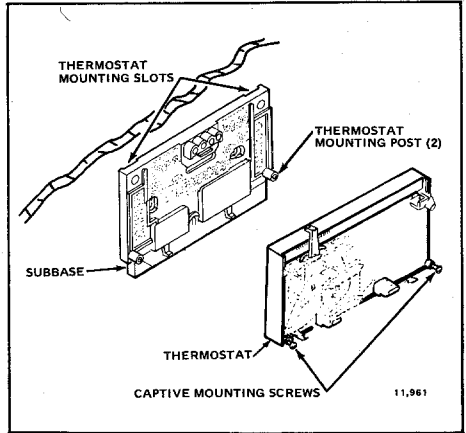

Fig. 7—Mounting thermostat on subbase (T874R shown).
5. Align the two captive mounting screws in the thermostat base with the posts on the subbase (Fig. 7). Tighten both screws. DO NOT OVERTIGHTEN SCREWS or damage to subbase posts may result.